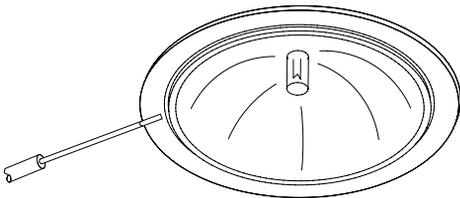

fig. 18
**Do not remove** the entire fixture (socket) as this is very difficult to reinstall. Gently pry the bulb from the fixture using a soft instrument such as a toothpick. Steel instruments will scratch the surface (refer to figure 18).